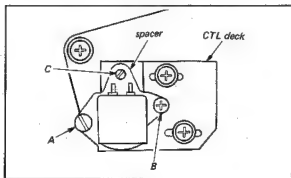

Fig. 4-9.
2. Remove the screws labelled A and B in Fig. 4-9 and lift the head assembly off the mounting plate. Be careful not to lose the Spring on the left screw.
on the Connector Panel and set the VTVM to ac (terminate the LINE OUT connector with a 100 k Ω resistor.) Thread the standard tape and play the 7 kHz audio signal. Adjust screws B (azimuth adjust) and C in Fig. 4-9 for maximum indication on the VTVM.